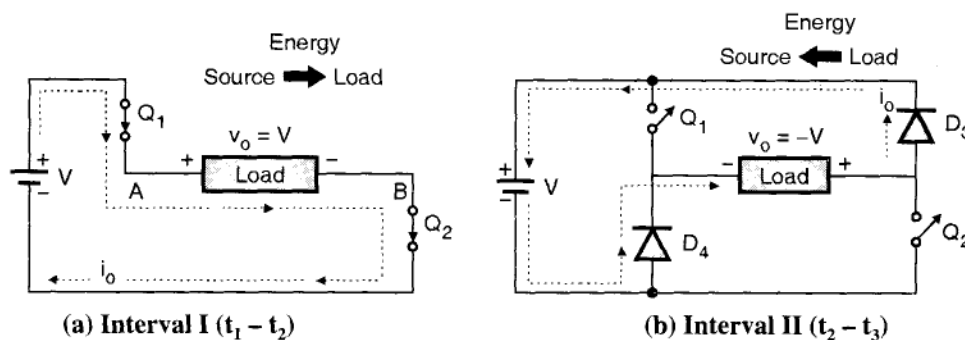

Fig. 3.13 : Equivalent circuit
- Thus output voltage becomes negative equal to $-V$. But the load current continues to flow in the same direction, through D_3 and D_4 as shown in Fig. 3.13 (b).